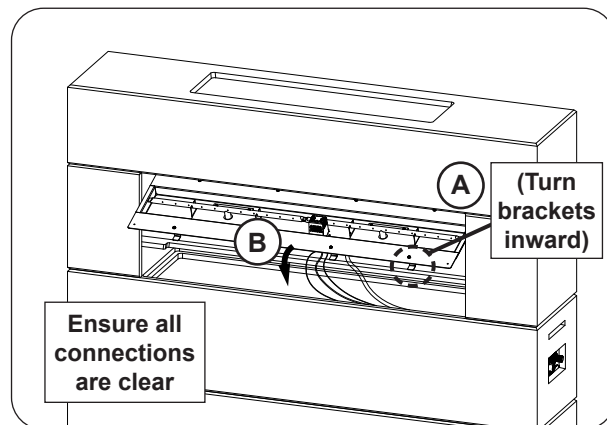

Fig. 30-2 Insert burner assembly
1. Ensure that the 8 burner brackets are turned inward, then insert the burner assembly (see Fig. 30-2, A-B).